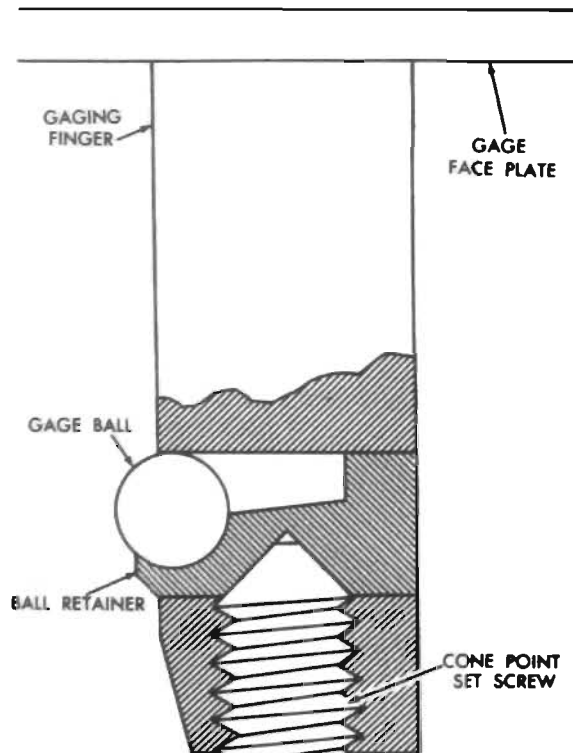

Fig. 111
2. Hold new gage ball in socket of ball retainer and slide assembly into hole in gaging finger, with ball toward face plate of gage and with cone recess in retainer facing forward. (Fig. 111) Tighten set screw in gaging finger, making sure that cone point of set screw enters cone recess in ball retainer.